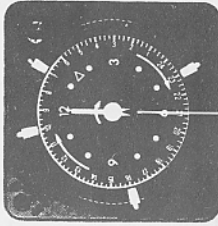

Fig 2
## Setting Correct Time and required On-Off periods — refer fig 2.
- Position tappets in outer dial as shown. **Red** tappets switch **On**, **blue** tappets switch **Off**. For example, if you want to switch on between 7 and 10 am and then between 4pm (16.00 on 24 hour dial) and 11pm (23 on dial), tappets are positioned as shown in fig 2.